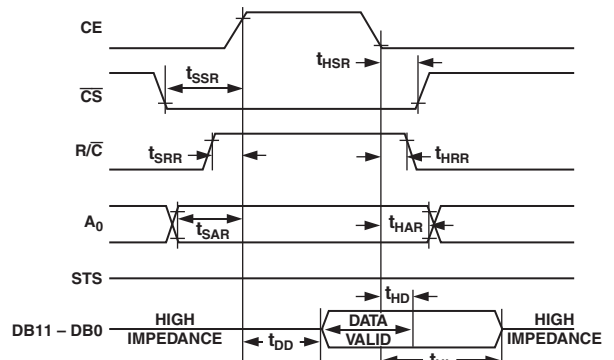

Figure 2. Read Cycle Timing
**READ TIMING—FULL CONTROL MODE (Figure 2)**